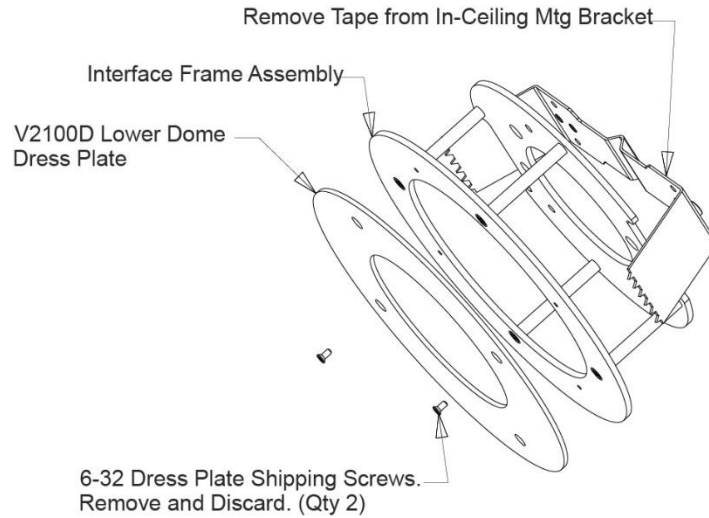

Figure 2
2. Remove the camera frame assembly from the shipping container and detach the dome dress plate and in-ceiling mounting bracket. Refer to Figure 2.
1. Remove the camera frame assembly from the shipping container and detach the dome dress plate, as shown in Figure 2.